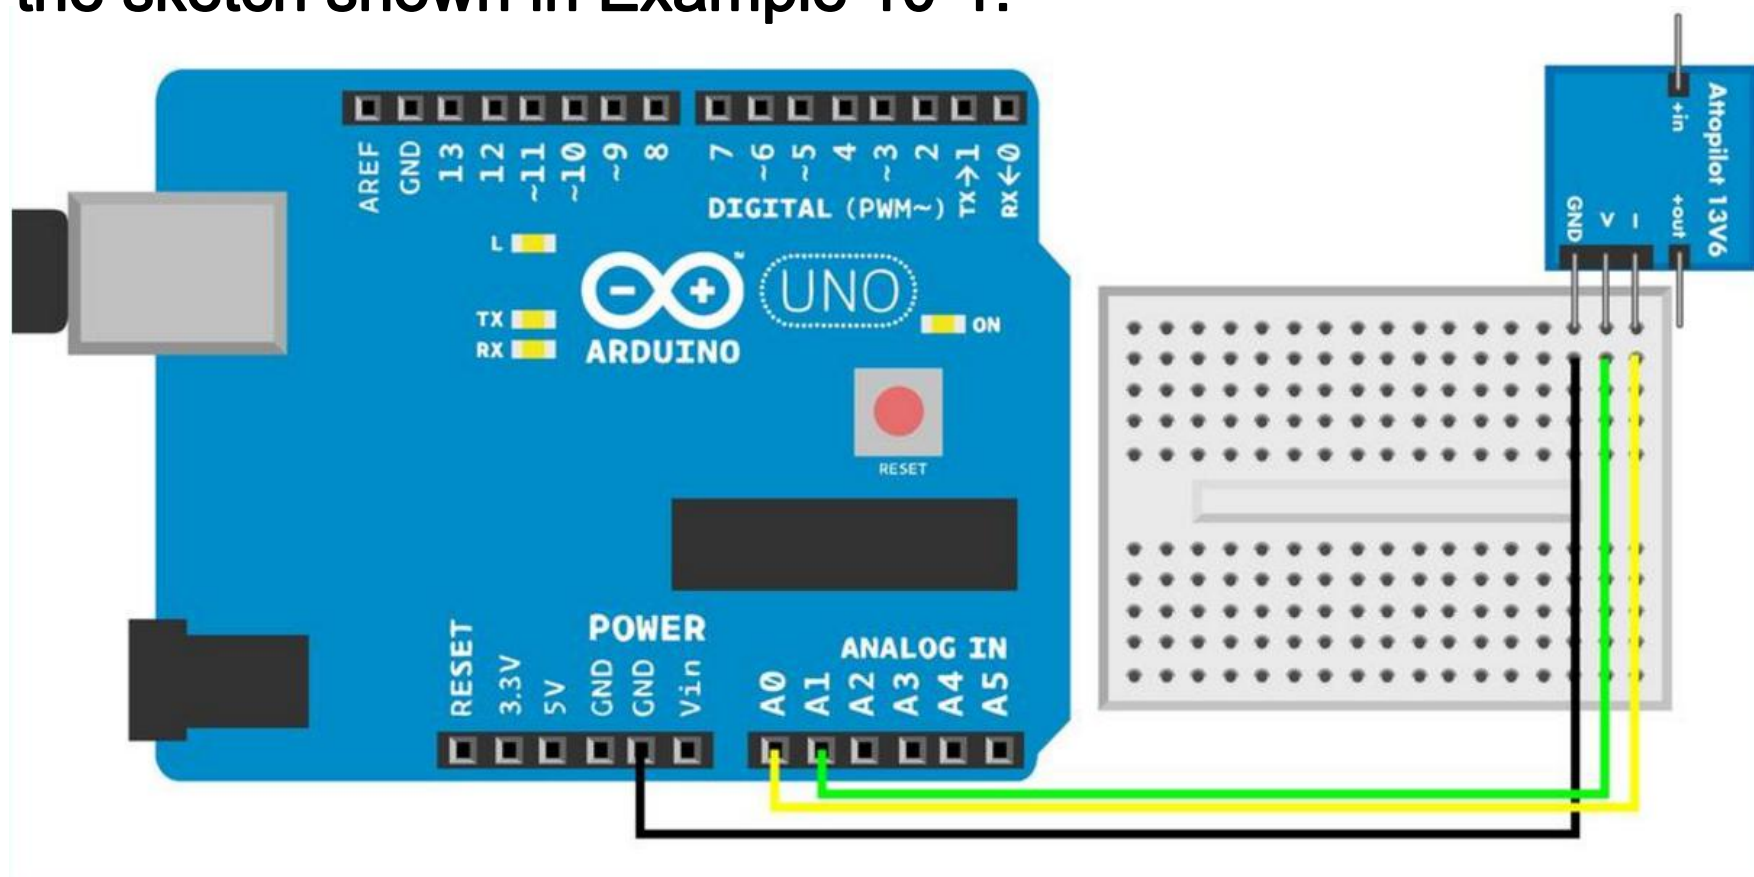

Figure 10-1. AttoPilot connections for Arduino
- Figure 10-1 shows the connections for Arduino. Wire it up as shown, and then run the sketch shown in Example 10-1.